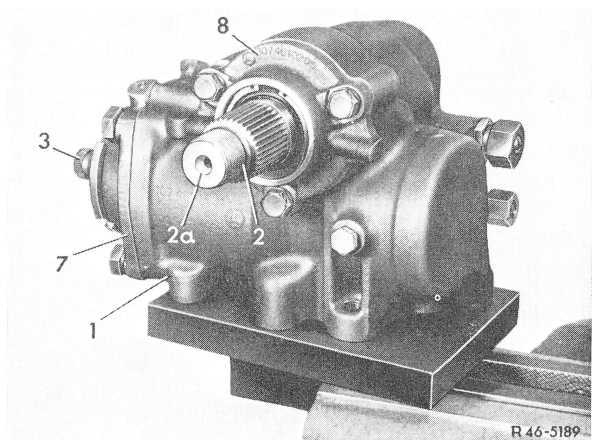

Fig. 3
- 3 Unscrew hex. screws for attaching housing cover (8) to steering case (1) (Fig. 3).